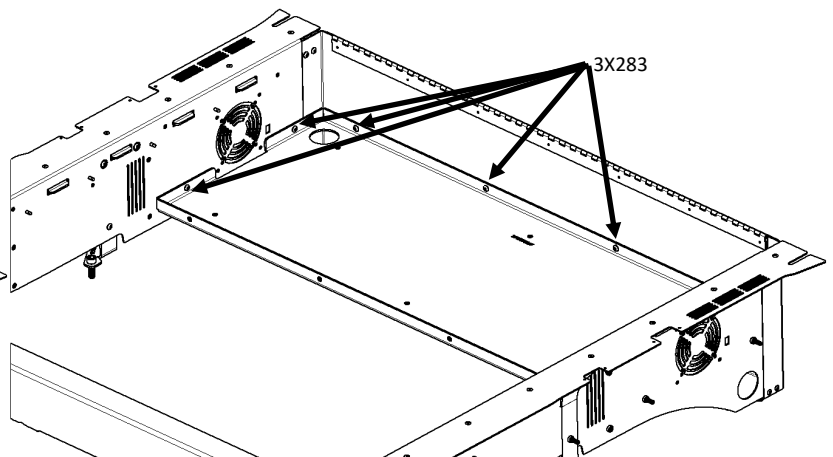

Figure 6b
3. Mount Electronics Floor Assembly to Front Panel Assembly, Driver Side Panel Assy, and Passenger Side Panel Assembly with 1/4" hex drive as shown in Figure 6b.